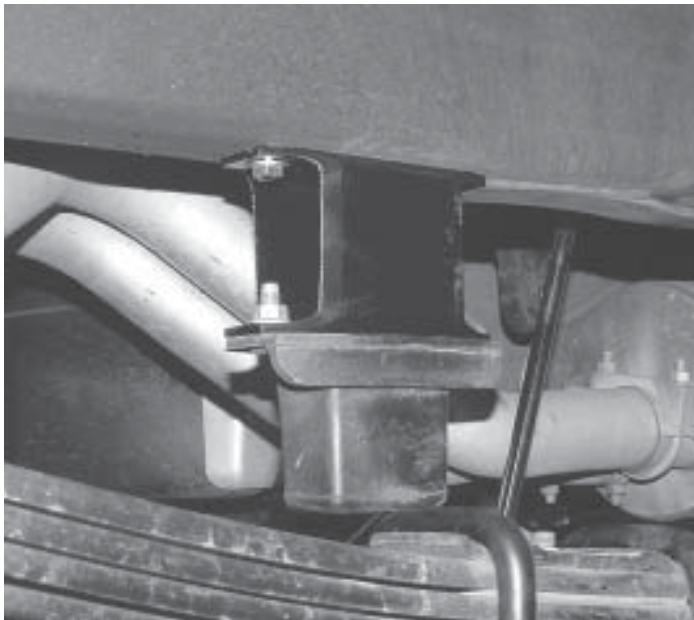

Fig. 23
9. Install new bumpstop spacer brackets. **Fig. 23**